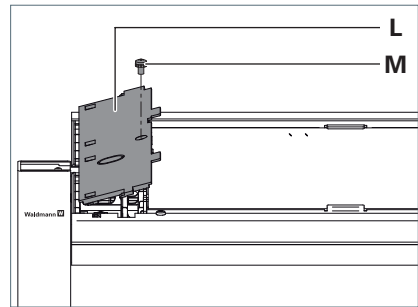

Fig. 6: Mounting the cover.
- Insert the cover **L** with the hooks on the bottom side of the cover into the eyelets on the luminaire head and press the cover firmly, see Fig. 6.